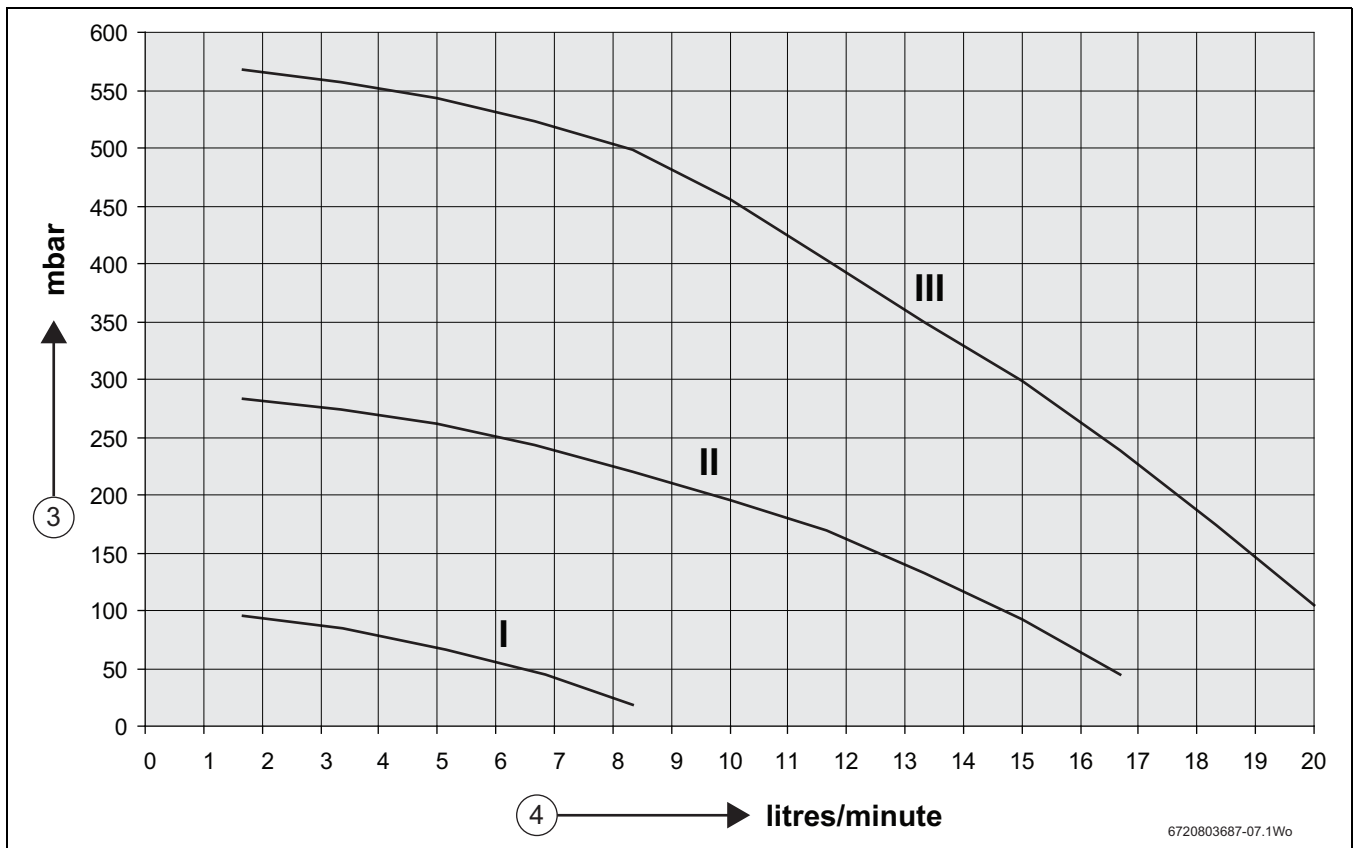

Fig. 49 Available pump head
2. The Available Pump Head, see figure 49 (Available head), must overcome A the Heating Circuit Resistance and B the resistance of any Additional Pipe work between the Accessory Box and the heating system
10. From Available Hydraulic Pump Head Chart, refer to figure 49, select the closest pump setting which provides P the Total pressure at F the system flow rate.